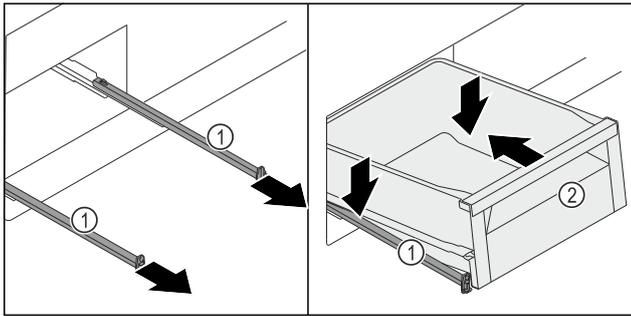

Fig. 128
- ▶ Pull out the rails Fig. 128 (1).
- ▶ Hold the rails Fig. 128 (1) firmly and place the drawer Fig. 128 (2) diagonally on the rails Fig. 128 (1) from above.
- ▶ Slide the drawer Fig. 128 (2) backwards on the rails Fig. 128 (1) as far as it will go.